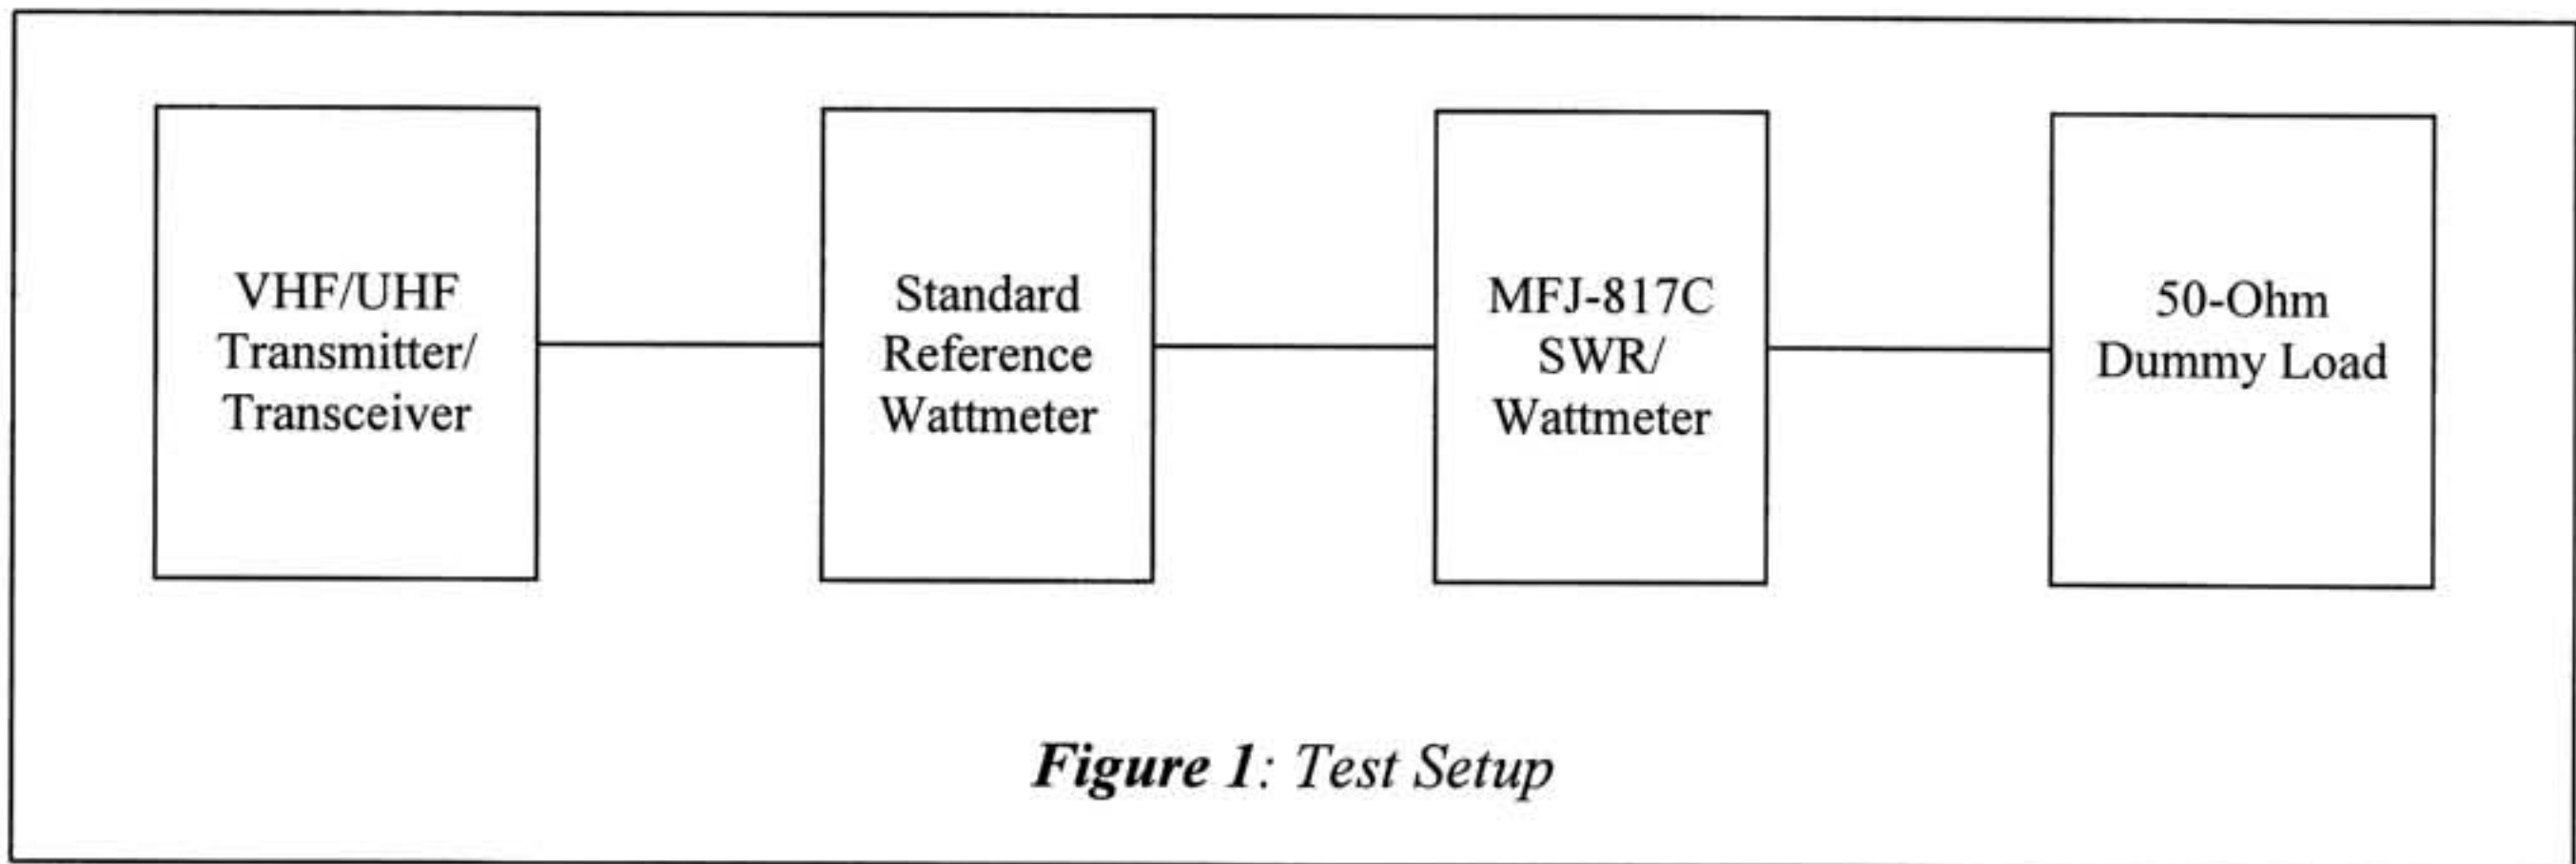

Figure 1: Test Setup
1. Refer to *Figure 1* for the Test Setup and refer to the PCB layout in *Figure 2* for trim pot location.
3. Connect the Test Setup equipment as shown in *Figure 1*. Use a 50-ohm dummy load for the antenna. Set the Transmitter to the 144/220/440 MHz in the VHF/UHF band.